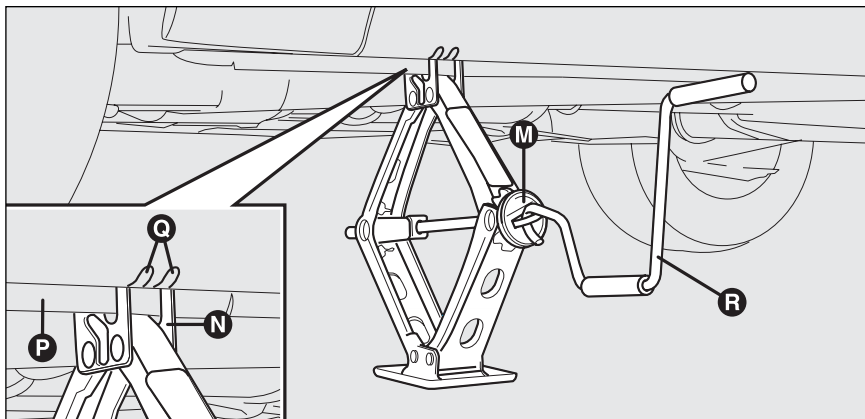

fig. 7
- work the jack crank **M-fig. 7** to extend it until the groove **N** on the upper part of the jack is correctly inserted on the lower profile **P** of the body in point **Q** (at approx. 72 cm from the front wheel centre or 75 cm from rear wheel centre);
- fit the handle **R-fig. 7** to operate the jack and raise the car until the wheel is a few centimetres from the ground;
- work the jack handle **R**-fig.7 to lower the car and remove the jack;